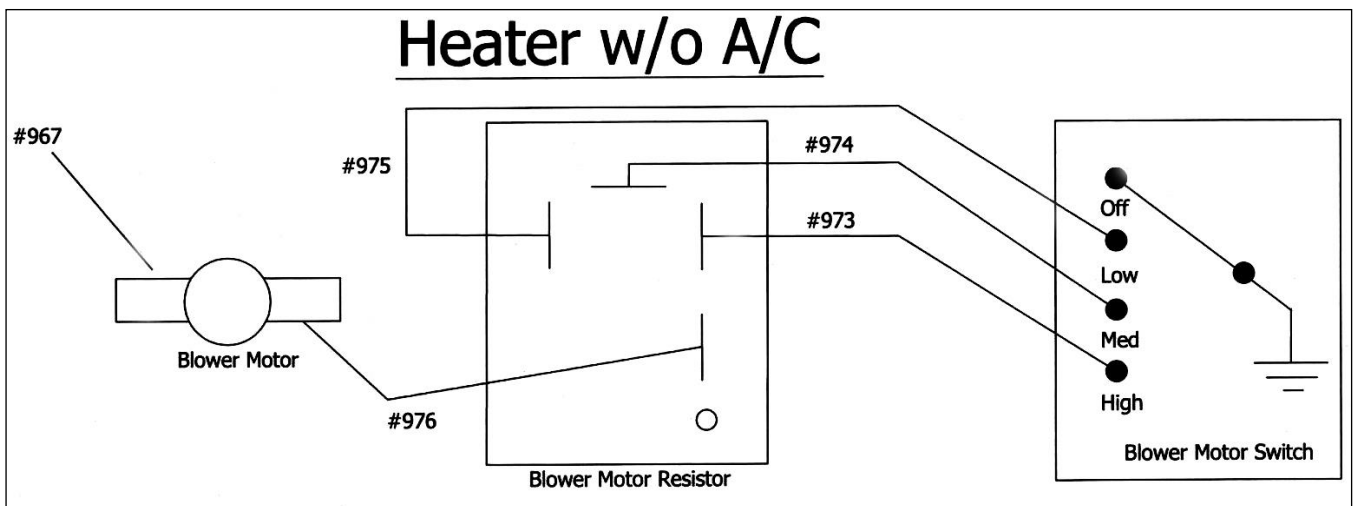

Figure 7-19 Blower Motor/Blower Motor Resistor/Blower Motor Switch
- 7.11.1** The connections for the Blower Motor, Blower Motor Resistor and Blower Motor Switch in a Mustang with a **Heater ONLY** are illustrated in **Figure 7-19**. The ground for the Blower Motor Switch is internal to the switch, meaning there are no connections to be made. The wire colors on wire numbers 973, 974, & 975 all match the wire colors coming out of the switch. The wire #976 (ylw) connects to the Orange wire on the blower motor. The wire #967 (brn) connects to the Black wire on the blower motor.